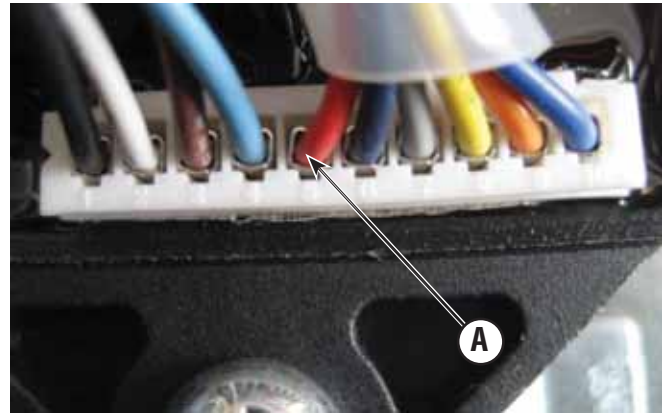

Figure 45
3. Turn the microswitch on and test between the terminal (A, Figure 45) and ground.